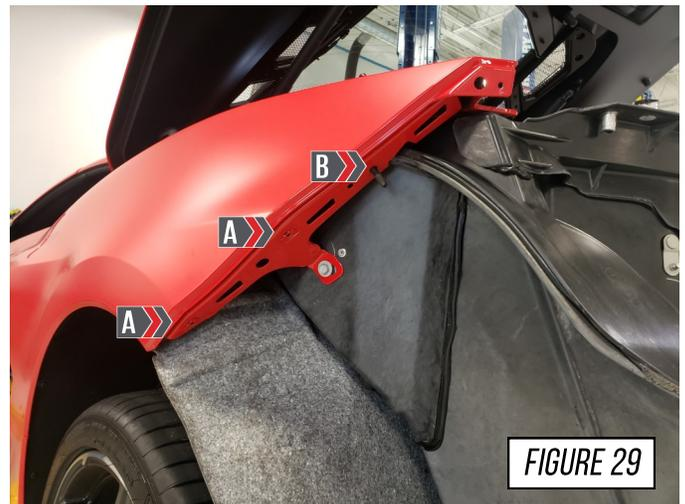

FIGURE 29
Pull back the wheel liner and reinstall the 2 torx screw (A) and the 1 nut (B) per side, as shown in **Figure 29**, with the bumper already removed.